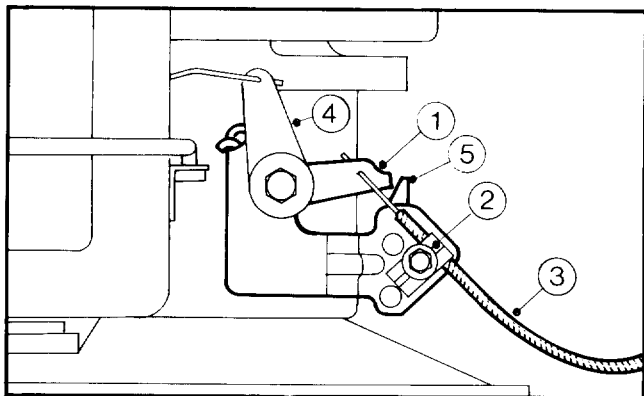

Figure 2
2. Hook cable end to governor spring lever and position cable casing under cable clamp (Fig. 2).
3. Slide cable until control arm contacts choke lever and begins to close carburetor choke butterfly (Fig. 2).